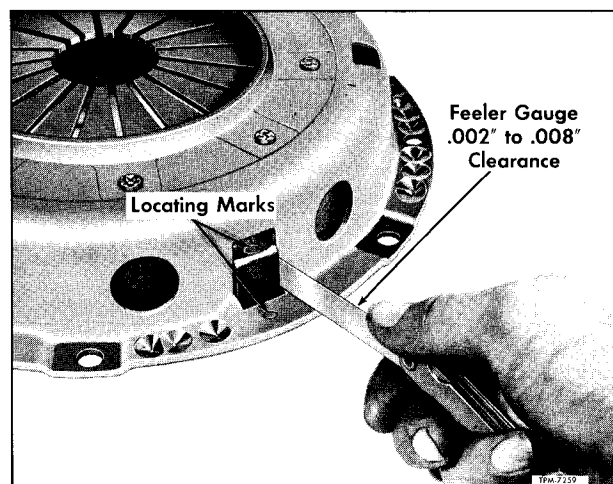
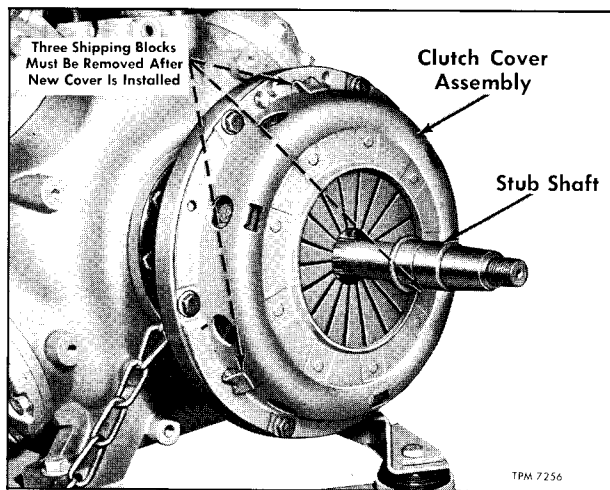

Figure 105—Clutch Cover To Plate Alignment Marks and Driving Lug Clearance Check
Figure 106—Using Stub Shaft To Align Clutch Components
IMPORTANT: If a new cover assembly was installed, pry three shipping blocks from around cover. Blocks are located as shown in figure 106.
of pressure plate (23) and mating slots in clutch cover (32) in manner shown in figure 105. If clearance is greater than .008", examine cover and lugs of pressure plate for wear and if necessary, replace worn parts.
If locating marks "O" on cover and pressure plate (fig. 105) are not visible, mark parts as shown. Remove pressure plate retracting spring bolts (30), remove springs (29), then separate pressure plate from cover.
1. Apply light coat of graphite grease on sides of pressure plate driving lugs; then install plate in cover, making sure balance mark "O" on cover (32) is matched with corresponding mark on pressure plate (33). Refer to figure 105.
2. Install three retracting springs (29) on pressure plate (33). There must not be any clearance between clutch spring and retracting spring when spring attaching screws are tight.
3. Making sure clutch wear friction surfaces are free of grease and dirt, set drive plate (34) in place against flywheel with extended portion of hub away from flywheel. While holding plate in place, move cover assembly (32) with pressure plate (33) into place against flywheel. Using a stub shaft as shown in figure 106 to align clutch drive plate, install cover attaching bolts (31) with lock washers alternately to compress clutch spring evenly and prevent possible distortion of cover flange. Remove stub shaft when all bolts are tightened to 40 lbs. torque. IMPORTANT: If a new cover assembly was installed, pry three shipping blocks from around cover. Blocks are located as shown in figure 106.